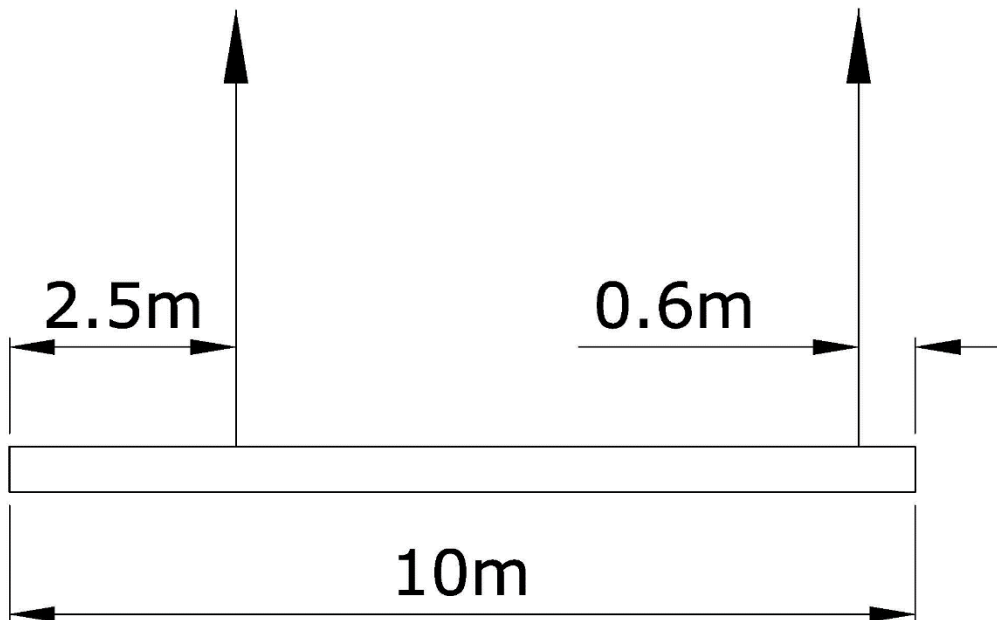

Figure 5b
- a) Using a scale of 10 mm representing 1 metre, reproduce the given space diagram shown in Figure 5b and complete with Bow's notation. (2)
- b) Draw the polar diagram. Use a scale of 10 mm representing 80 kg. (3)
- c) Draw the bending moment diagram to find graphically the tensions in the **TWO** supporting cables. State the values of the supporting cables. (5)
- d) Draw a shear force diagram. (3)